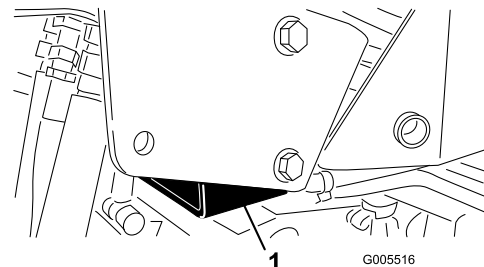

Figure 34
- Right side-under the ROPS (Roll Over Protection System) support bracket (Figure 34)